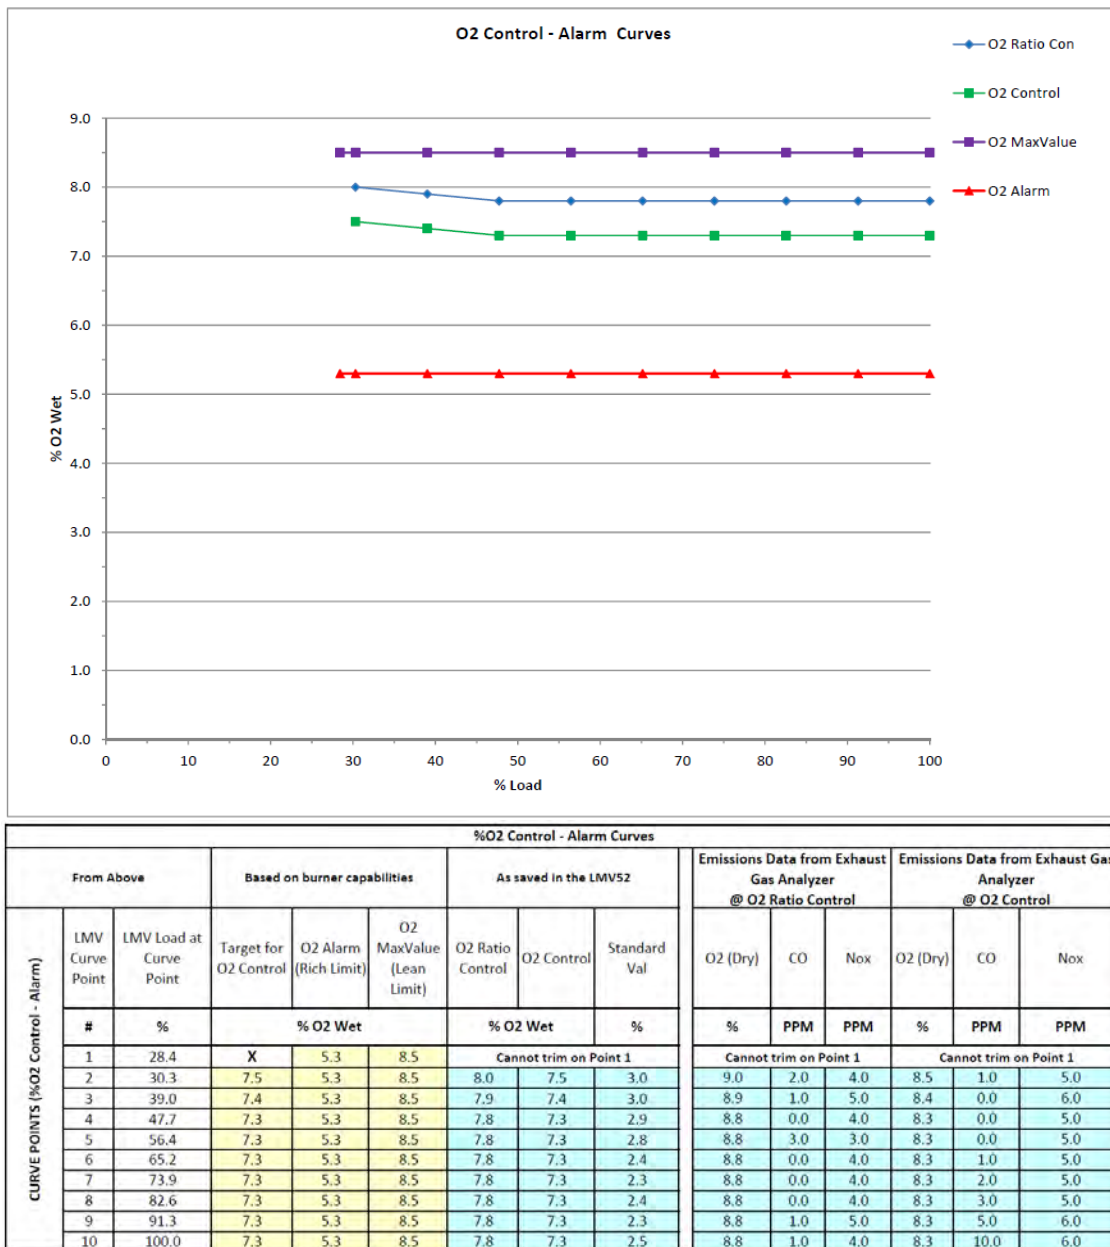

Figure 6-6: Example of Typical O₂ Control Curves - Mesh Burner or Nozzle Mix with High % FGR
16. After the delay time is successfully measured at Point 10, escape out of the O₂ control curve. See Figures 6-6 and 6-7 below for an example of what typical O₂ trim curves and Lambda Factor curves might look like for this application.